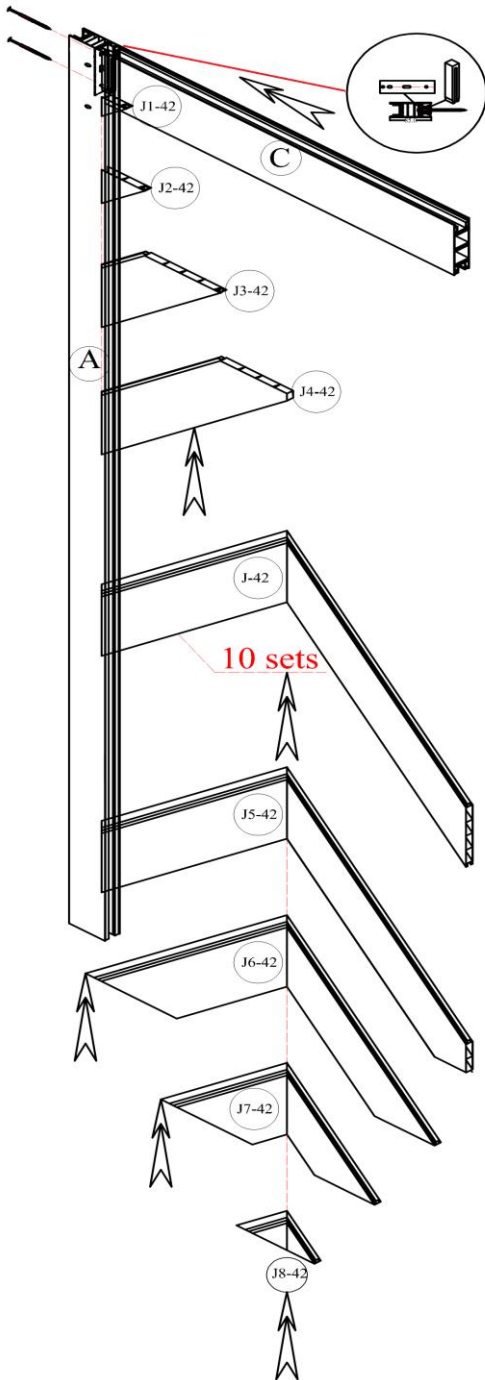

Figure 6A
Continue the same process in sequence with 10 sets of J-42 panel, then 1 set of J5-42 panel and then 1 set of J6-42 panel. Upward the sharp head of these door-panel sets in order to join every panel set in right direction. Also, the left open edge of each door-panel set shall slide into the Stile (A). Again, make sure that all the door panels join each other firmly. Tap into place if necessary. The next step is applying the two bottom door-panel sets which are set of J7-42 panel and J8-42 panel. Insert the tongue of J7-42 panel set into the groove of J6-42 panel set and make sure they join firmly. Tap into place if necessary. Continue with applying J8-42 panel set into J7-42 panel set. Make sure the two panel sets fit each other and Stile (A) tightly. Tap into place if necessary. See **Figure 6A**.